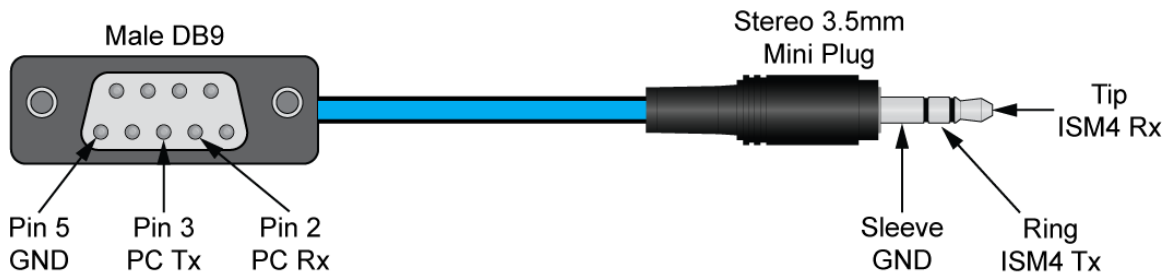

Figure 7 ISM4 RS232 Pinout
1. Using a **stereo 3.5mm mini plug**, connect the **ISM4 RS232 Port** to an appropriate **RS232 Port** on the system **control device** to be used for **RS232 control**. Adapt the stereo mini-plug cable to the control device port as appropriate (DB-9, RJ45, etc.) Xantech manufactures a Male DB9 to 3.5mm Mini Plug Cable (Xantech Part No 05913780) configured as shown in **Figure 7**. Please refer to the control device documentation for the pinout of that device's RS232 Port.